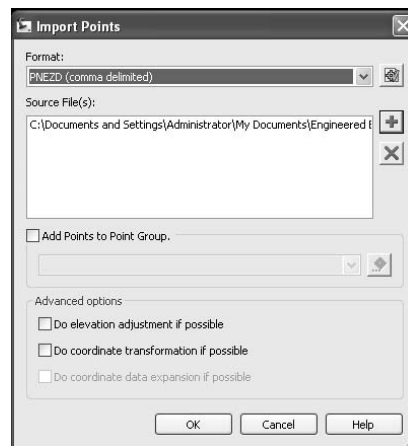

Figure 5.2
6. Back in the **Import Points** dialog, uncheck the **Do Elevation Adjustment If Possible** box. The dialog should look like Figure 5.2.